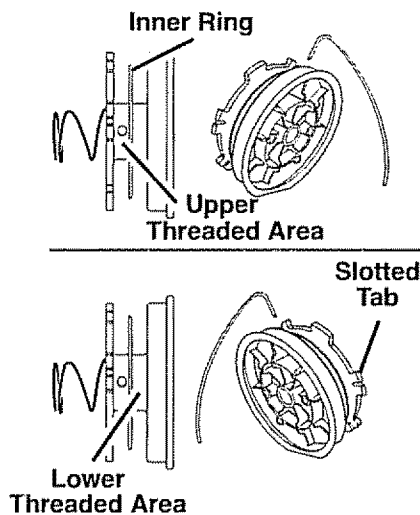
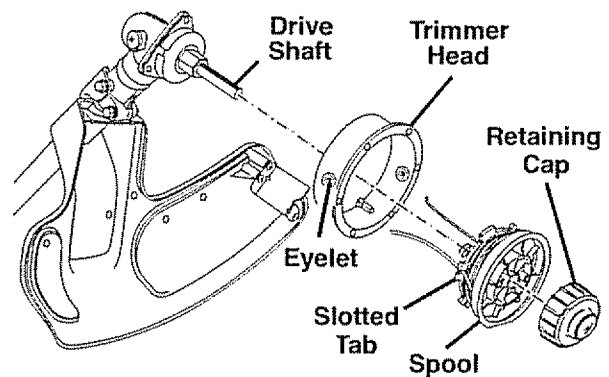

Figure 18
Figure 19
See Figure 18 and Figure 19.
*See Figure 19.*